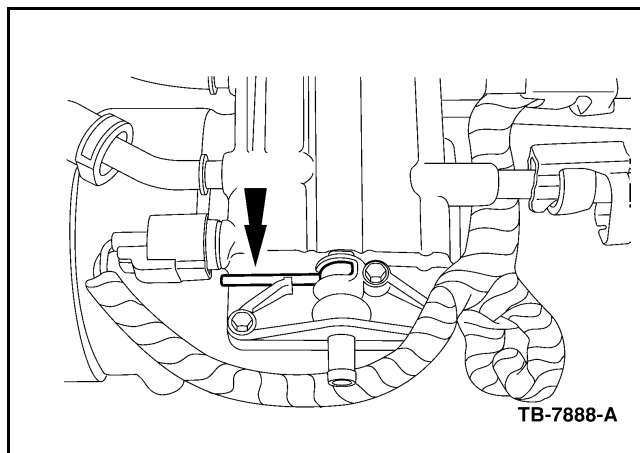

Figure 1 - Article 04-9-2
3. Open the fuel/water separator drain valve to release the fuel pressure (Figure 1).